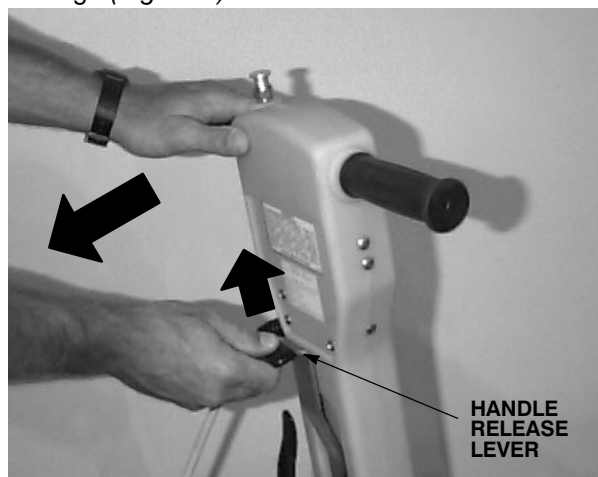

FIG. 4
1. Adjust handle to a comfortable operating height. Lift handle release lever and lower handle to adjust. Release lever to lock handle in position, six settings (Figure 4).